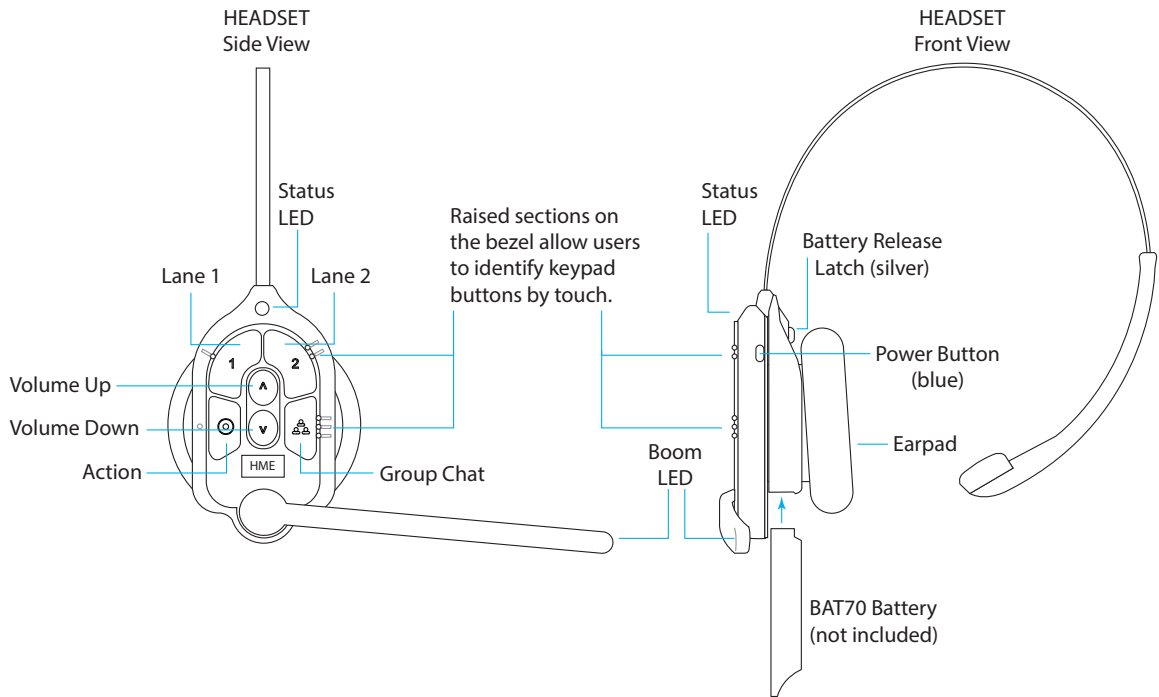

Fig. 6.1
The AIO HS7000 Headset (Fig. 6.1) is an all-in-one headset used to communicate with fellow employees and customers in a drive-thru lane environment. It uses one BAT70 lithium-ion battery. Under normal use, the headset will operate for approximately 8 hours on a single battery charge (new battery) and will alert you when the battery charge is low. The Omni headset (not shown) uses a detached keypad but the functionality is identical to the AIO.
1. Insert a fully charged BAT70 battery into the battery holder of the headset (see Fig. 6.1). The battery clicks securely into place.
2. Press the blue power button to turn on the headset (see Fig. 6.1). The status LED turns on green and blinks, alternating between green and red, indicating you now need to pair the headset.
A weak battery might also result in pairing issues. To replace the battery, press the battery release button above the battery compartment (Fig. 6.1) and remove by sliding battery out. Insert a fully charged battery by sliding into the battery compartment until it bottoms out and clicks securely in place.